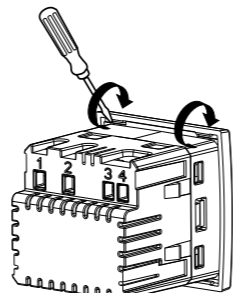

Fig. 1
2. insert the tip of a screwdriver in the part indicated in fig. 1 making a slight lever so as to release the locking teeth of the front panel